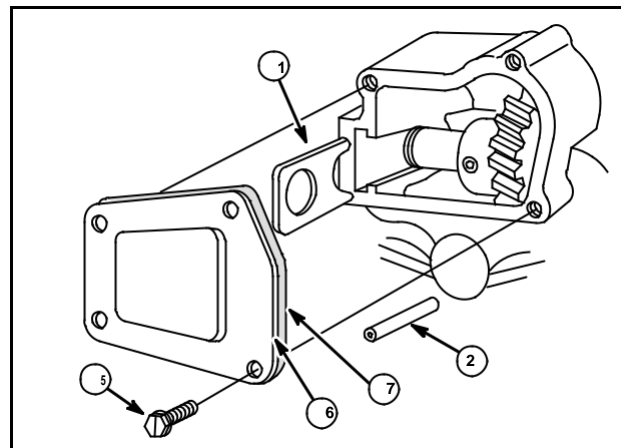

Fig. 51
Replace gasket (7) when installing cover (6), Fig. 51. Put non-hardening sealant on cover screws (5).
2. Remove cover and lift out shaft stop, Fig. 51.